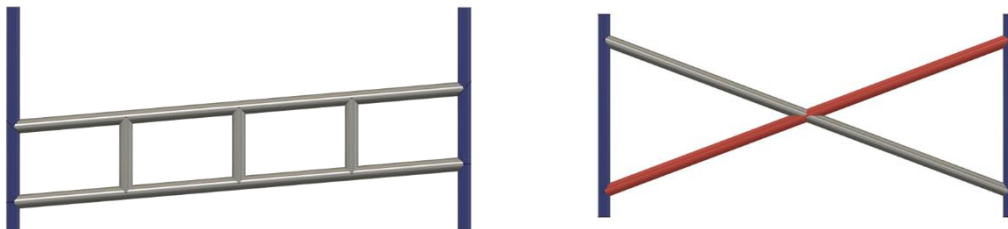

Figure 9
- B. The door bars may run parallel, or in the shape of an “X”. Refer to Figure 9.